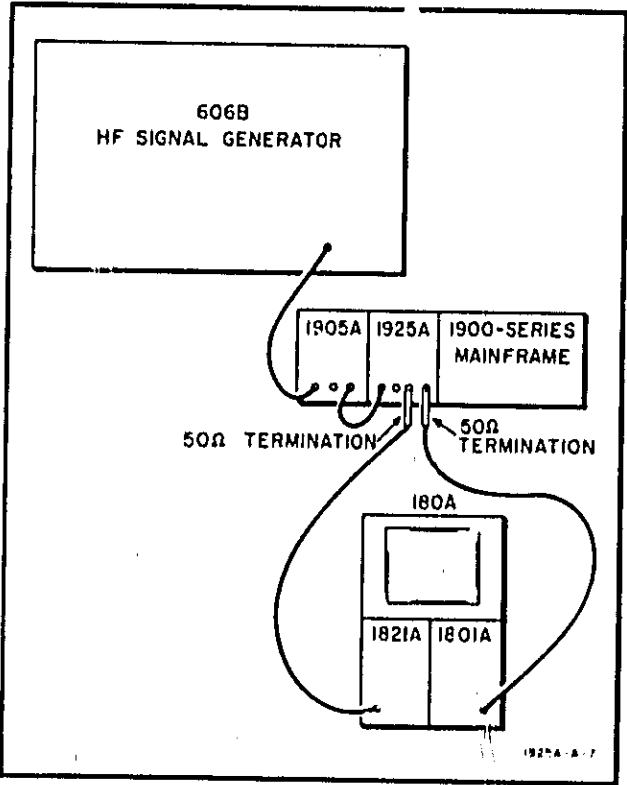

Figure 5-8. Frequency Check Test Setup
a. Connect the equipment and accessories as shown in Figure 5-8.